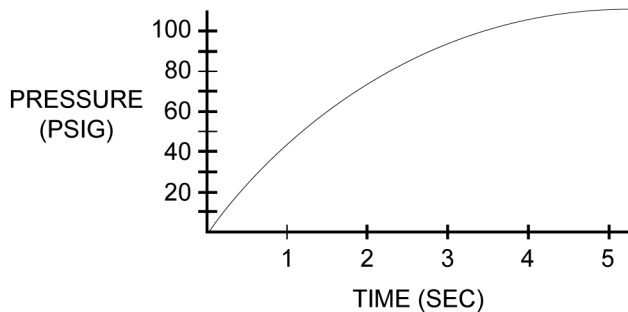

Figure 12
- 3.2.5 Repeat the above procedure while adjusting the flow control valve (10) to supply a pressure rate of approximately 20 psig/sec. (1.4 bar/sec.). Due to the non-linearity of the pressure-time curve (See **Figure 12**), it will be easier to use a reduced value to set the flow control valve. For example, if the tank pressure is 100 psig (6.8 bar), to obtain a flow rate of 20 psig/sec. (1.4 bar/sec.), time the pressure build up to 80 psig (5.4 bar) and adjust the flow control valve to deliver this pressure in 4 seconds, which, for all practical purposes, would equate to the desired 20 psig/sec. (1.4 bar/sec.).